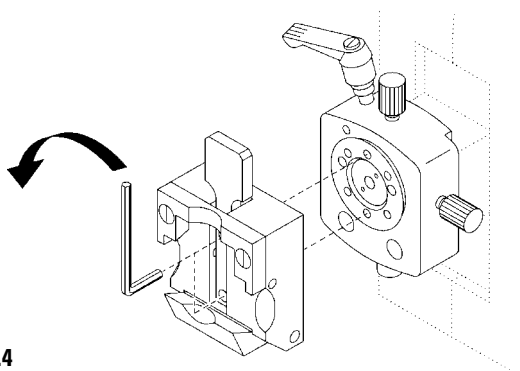

Fig. 29.4
- Place the specimen clamp on the fixture as shown (Fig. 29.4) and fix it with the two corresponding screws.